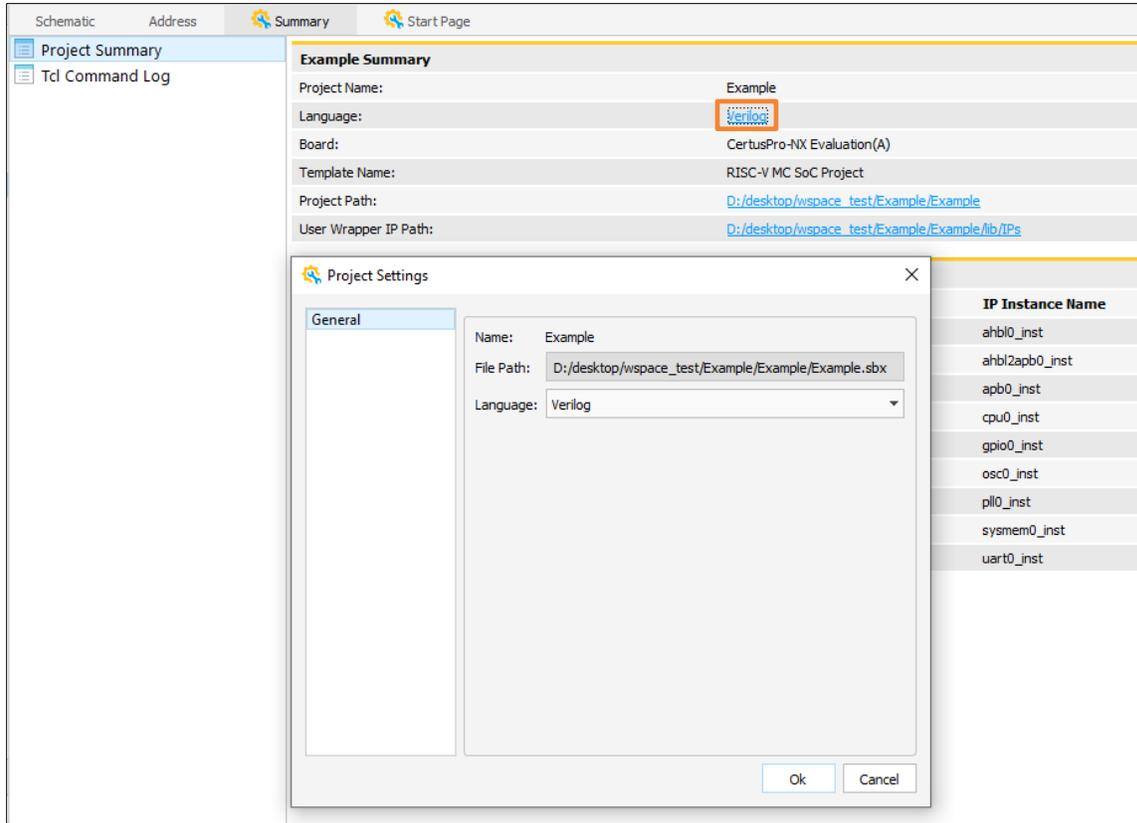

Figure 2.11. SoC Project Summary – Language
- Click the **Language** link in **Summary** (Figure 2.11) to change the project setting for language.